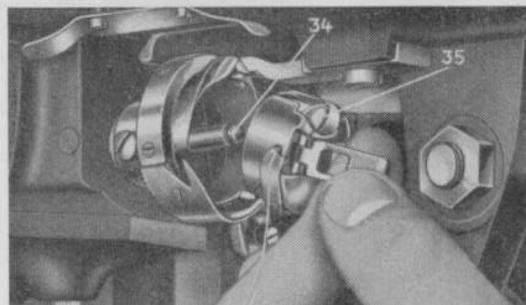

FIG. 8
of machine. Take bobbin case by the latch with same grip as employed in removing it and place it on the centerpost (34) of the bobbin case holder with the semi-circular notch (35) facing upward. (Fig. 8.) Release latch and press bobbin case into the bobbin case holder until the latch catches the groove under the tip of the centerpost with a click that can be heard. Pull bobbin thread permitting 3—4 inches to hang down freely.